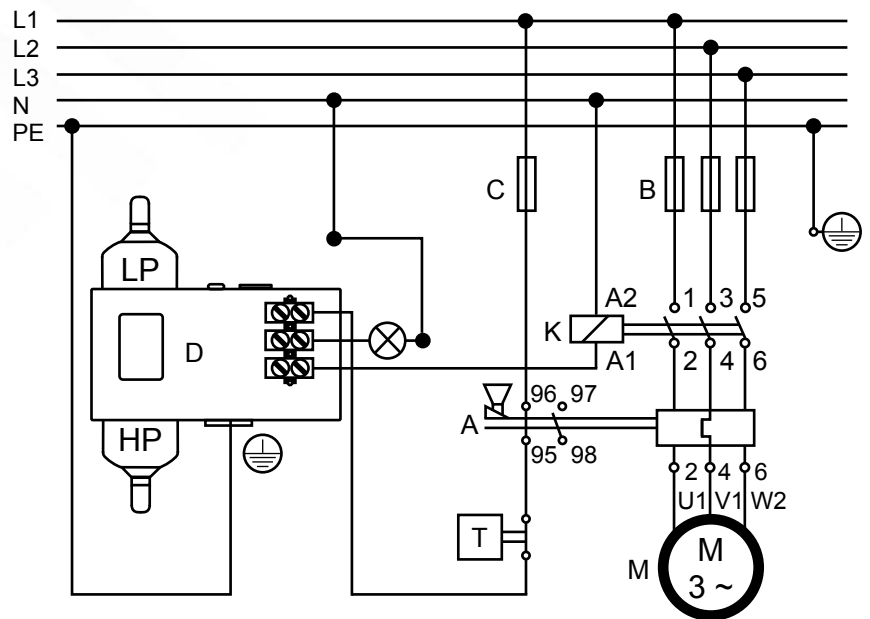

Fig. 4 Pressure Connection
- Do not apply torsional force to switch housing during assembly (see Fig. 4)
Pressure Connection (See Fig. 4)